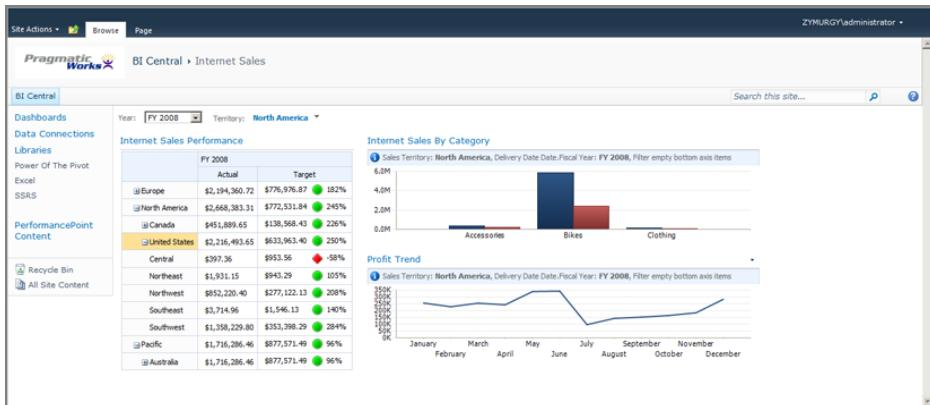

Figure 7-1
PerformancePoint is an application that falls under the SharePoint umbrella of products. It is installed as part of the overall business intelligence capabilities of the SharePoint platform. Figure 7-1 displays a full PerformancePoint dashboard as it appears when published.
The dashboard shown in both Figure 7-1 and 7-2 consists of six distinct parts, including the following:
- **Dashboards:** The term “dashboard” in PerformancePoint can be a little misleading. In this context, it acts as the container that brings data sources, filters, reports, and scorecards together, as you saw in Figure 7-1. The dashboard is responsible for the layout and look and feel, and is capable of supporting multiple pages.